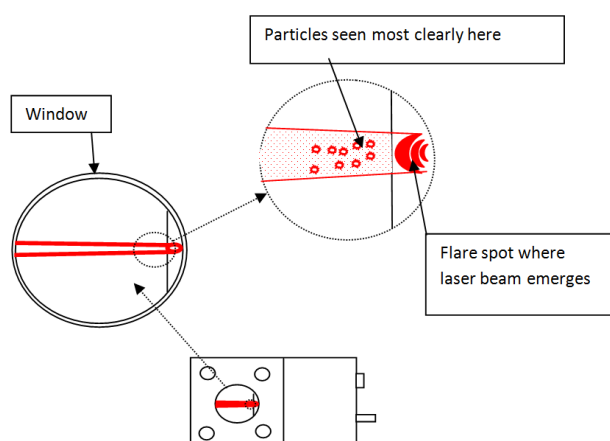

Figure 1 – Locating the thumbprint
3. Find the 'thumbprint' flare spot where the laser beam emerges (see figs. 1 and 2). This can be used to check for vibration – the scatter pattern at the thumbprint should be static, any movement seen here indicates vibration.
4. Move to the optimal viewing region, where particles are seen next to the thumbprint (shown in fig. 1)